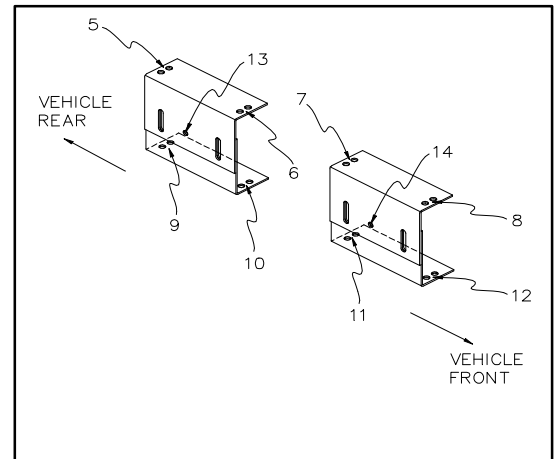

FIGURE 2-6: TOP BRACKET HOLES
- 3) Refer to **Figure 2-6**. Match and align both top bracket holes 5, 6, 7, and 8 with baseplate assembly holes 5, 6, 7, and 8. Mark bracket assembly mounting holes 9, 10, 11, and 12 onto vehicle step.